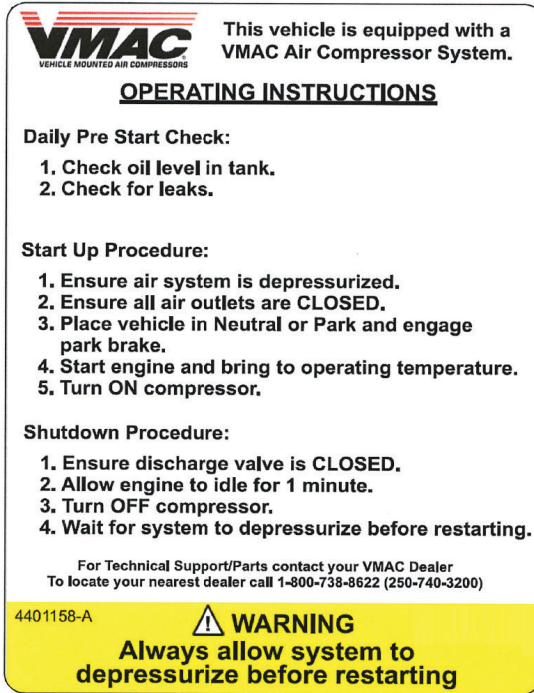

Figure 52 — Operating Instruction label
- ☐ As part of the installation process, ensure that the safety and operational instruction decal is affixed in an obvious location so that it can be seen by vehicle operators. A good spot for this is usually on the inside of the door or on the panel underneath the steering wheel (Figure 52).